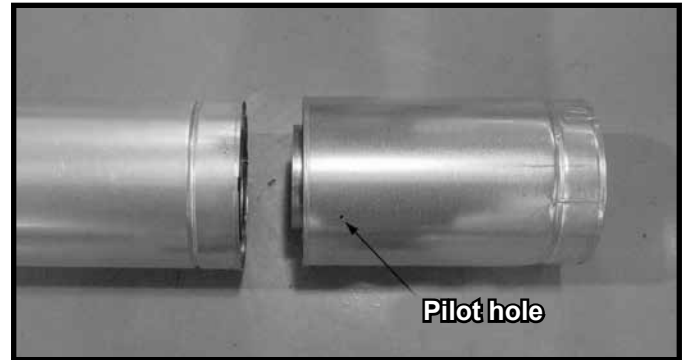

Figure 7.6 Slip Section Pilot Holes
- Slide the inner flue of the slip section into the inner flue of the pipe section and the outer flue of the slip section over the outer flue of the pipe section. See Figure 7.6.